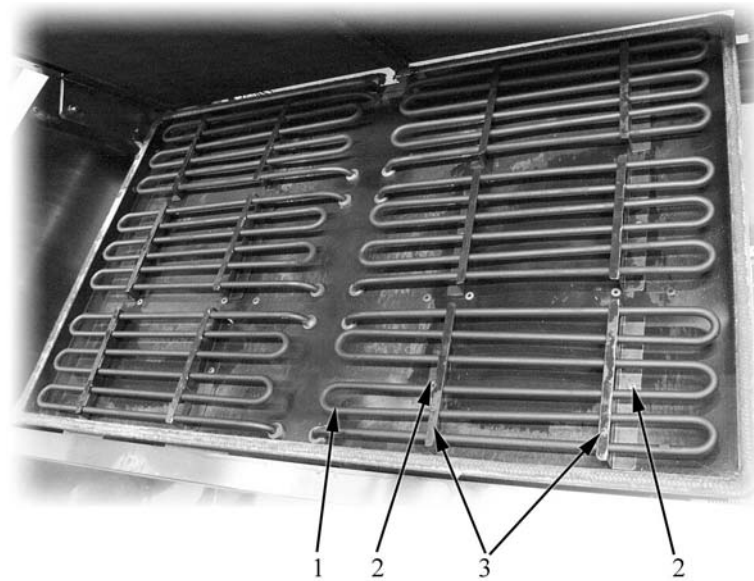

Fig. 13
- unscrew the fixing screws of the faulty heating element squares (item 2 in Fig. 13);
- take off the heating element/square assembly and use latter (item 3 in Fig. 13);